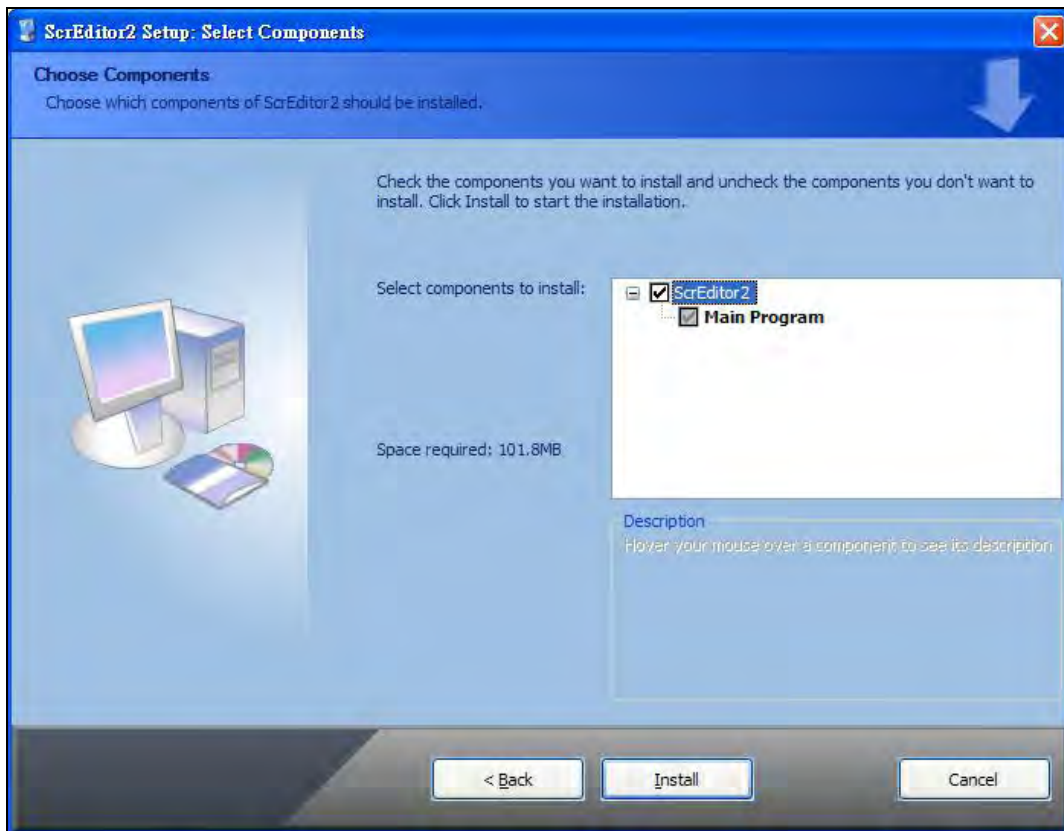

Fig. 3-1-4 Select Screen Editor software program
Step 3: After pressing **Next**, system will ask you to select the installation software, i.e. Screen Editor (Fig. 3-1-4).